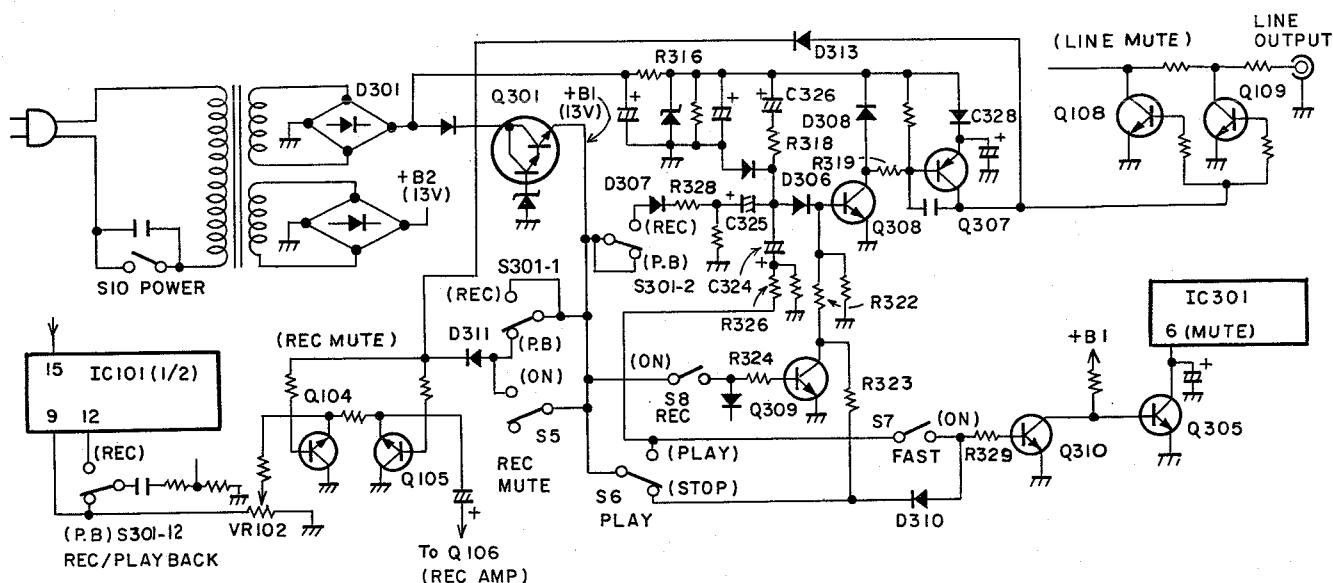

Fig. 6-1 Muting circuit
6.3 MUTING CIRCUIT (Refer to Fig. 6-1)